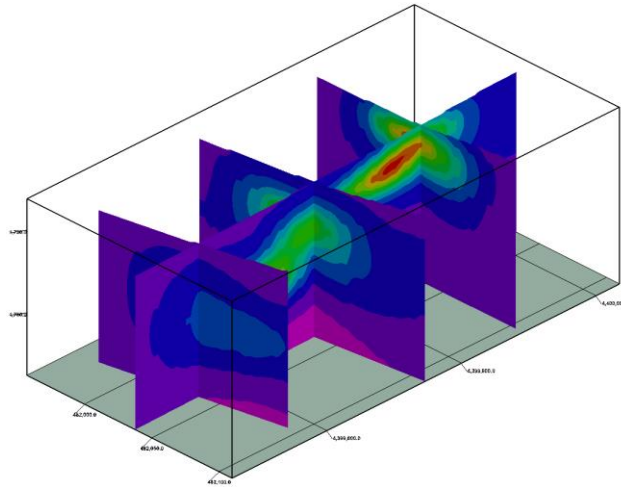

Figure 89
- Click the *Continue* button and a fence diagram (Figure 89) will be generated.